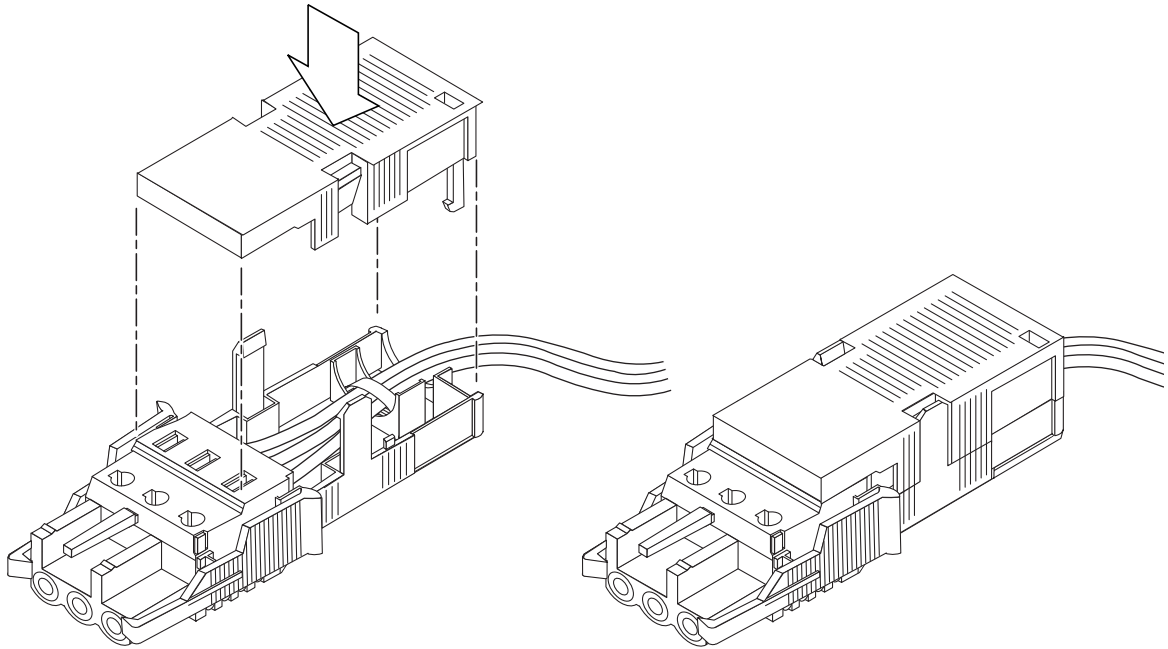

FIGURE 3-9 Assembling the Strain Relief Housing
- 5. Position the top portion of the strain relief housing so that the three prongs on the top portion fit into the openings in the DC connector, and push them together until they snap into place (see FIGURE 3-9).**